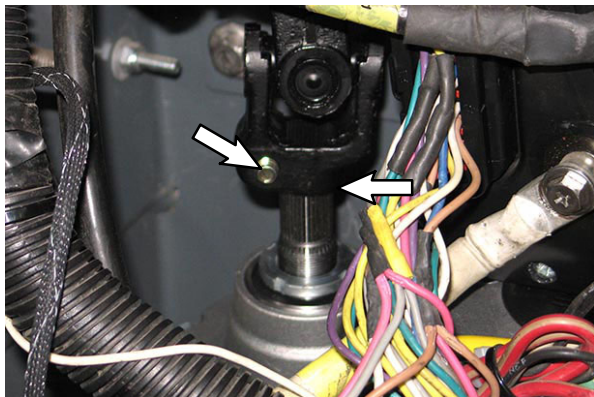

FIG. 4
5. Disconnect the bottom of the power steering top shaft from the power steering motor. Set the SEMS M8 hex screw aside. (Fig. 4)